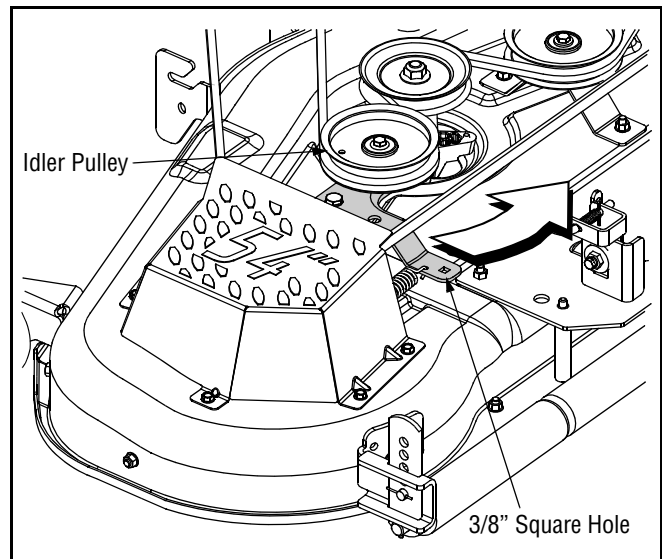

Figure 23
- To ease in removing the belt in later steps, loosen, but do not remove, the bolt which secures the pivoting idler pulley to the idler bracket. See Figure 23.
- Insert a 3/8"-drive ratchet wrench (set to *tighten*, Model GT2200 or set to *loosen*, Model GT2300) into the square hole found in the idler bracket on the left side of the deck's surface. See Figure 23 (Model GT2200) or Figure 23 (Model GT2300).